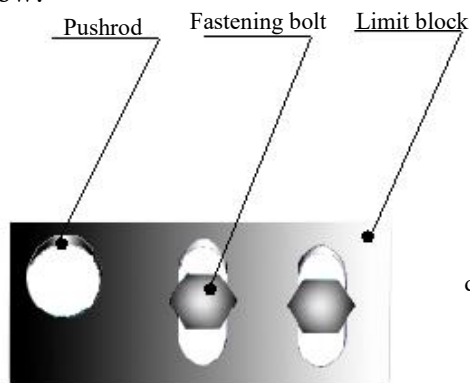

Fig. 13 Limit Block
5.2.2 Adjustment of Capsule-Detaining Reed (refer to Fig. 13, 14)